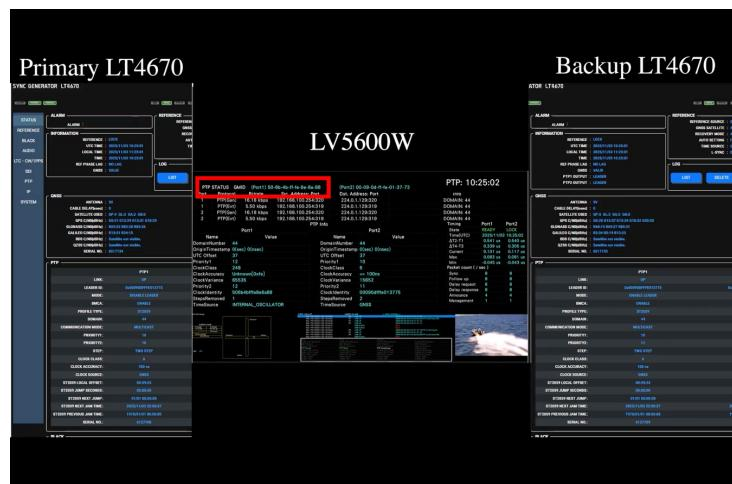

Figure 9: Boundary Clock GM Intervention
- Figure 9 shows a substantially larger disturbance - several milliseconds - that can occur resulting in the Boundary Clock switch momentarily becoming the GM, before the backup LT4670 SPG is selected as GM by the BMCA.